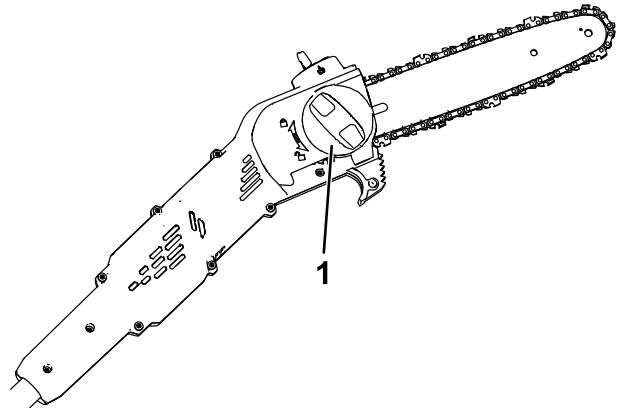
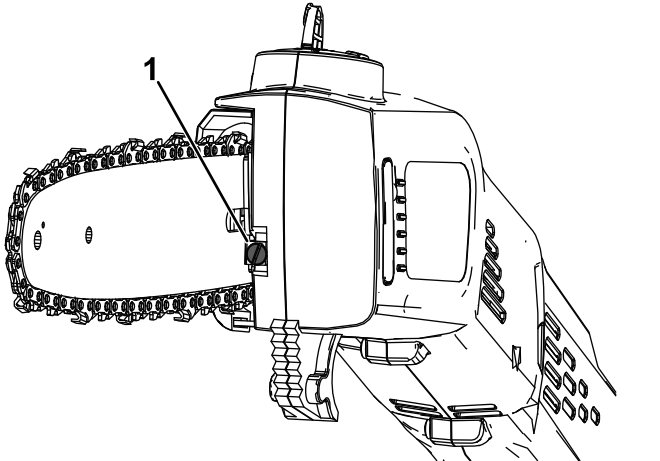

Figure 17
Figure 18
4. Turn the bar cover knob counterclockwise to loosen the bar cover, but do not remove it (Figure 17).
5. Adjust the chain tension using the chain tensioning screw (Figure 18), and then secure the side cover to the pole saw by turning the bar cover knob clockwise before checking the tension (Figure 17).
3. Loosen the chain by turning the chain-tightening screw counterclockwise (Figure 18).